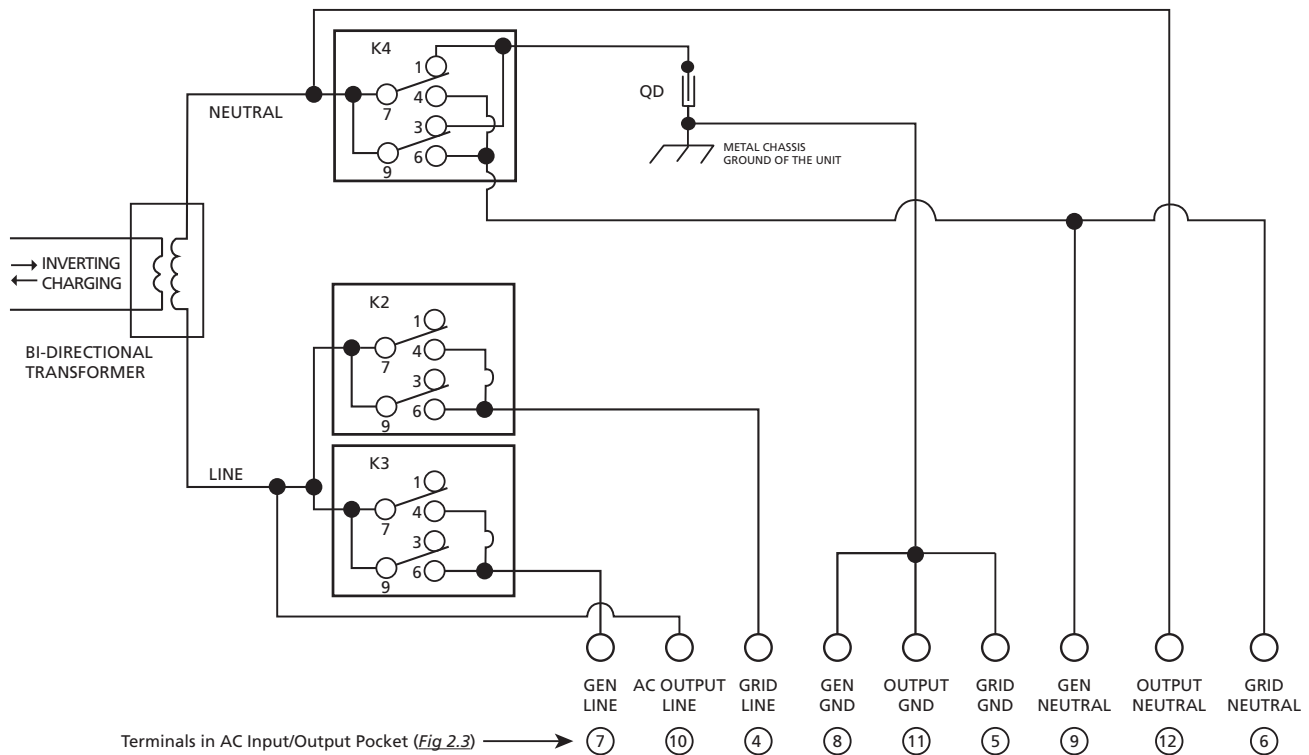

Fig 4.1(b) Operation of Transfer Relay and Switching of Bond between Output Neutral & Metal Chassis Ground – EVO-3012 & EVO-4024
frequency). Typical transfer time is 16 milliseconds from the AC input source to Inverter and <1ms from Inverter to the AC input source. Heavy duty 70 A (2 x 35 A poles in parallel), Transfer Relay [K2, K3 in Fig 4.1(b)] is used for reliable transfer of power in EVO-4024/ EVO-3012. 40 A Transfer Relay [K2, K3 in Fig 4.1(a)] is used for EVO-2212/ EVO-2224.
As required by NEC and UL Standard 458, automatic switching of bonding between the Output Neutral and Chassis Ground has been provided in EVO® through "Output Neutral to Chassis Ground Bond Switching Relay" [K4 in Figs 4.1(a) and 4.1(b)]. Switching of bonding is carried out as follows:
- (a) When operating as an inverter, the current carrying conductor of the Inverter Section that is connected to the Output Neutral terminal of EVO® is bonded to the metal chassis of EVO® by the "Output Neutral to Chassis Ground Bond Switching Relay" [K4 in Figs 4.1(a) and 4.1(b)]. As the metal chassis of EVO® is in turn bonded to the Earth Ground (*in shore installations*) or to the RV Ground (*chassis of the RV*) or to the Boat Ground (*DC Negative Grounding Bus Bar and the Main AC Grounding Bus Bar are tied together in a boat and this is called the "Boat Ground"*), this current carrying conductor of the Inverter Section (*connected to the output terminal*) will become the Grounded Conductor (GC) or the Neutral of the Inverter Section.
- (b) When in Charging Mode, the Neutral conductor of the Grid power/Generator will be connected to the Output Neutral terminal of EVO®. At the same time, the "Output Neutral to Chassis Ground Bond Switching Relay" [K4 in Figs 4.1(a) and 4.1(b)] will unbond (*disconnect*) the Output Neutral connector of EVO® from the metal chassis of EVO®. This will ensure that the Grounded Conductor (GC) i.e. the Neutral of the Grid power/Generator is bonded to the Earth Ground at one single point at the location of the AC Power Distribution System of the Marina/RV Park/Shore Power.
- (c) **Disabling Neutral to Ground Bond:** In some applications, the Output Neutral of EVO® may be required to remain isolated from the chassis/Ground at all times. For this, automatic Output Neutral to Ground bond can be disabled by disconnecting the Male/Female Quick Disconnect located in the AC wiring compartment. [*Please see (i) 13, Fig 3.9 and (ii) "QD" in Figs 4.1(a) and 4.1(b)*]
Refer to Schematic at Fig 4.1(a)
Legend for Fig 4.1(a)
Refer to Schematic at Fig 4.1(b)
Legend for Fig 4.1(b)